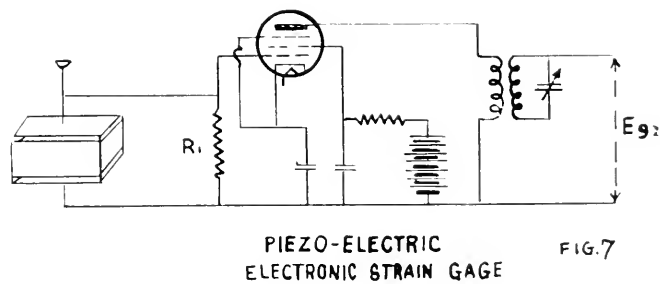
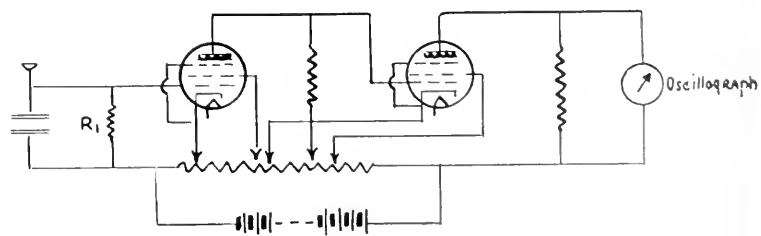

FIG. 7
FIG. 8
**Piezo-Electric Strain Gage:** The diagrams of Fig. 7 and Fig. 8 are based on two recent developments,